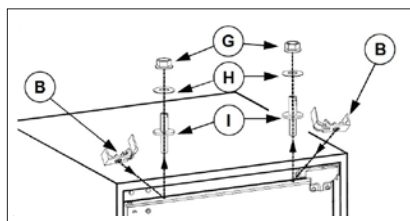
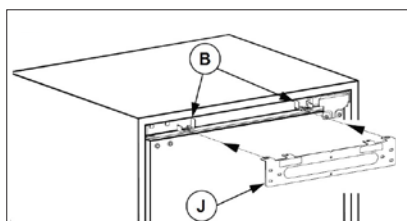
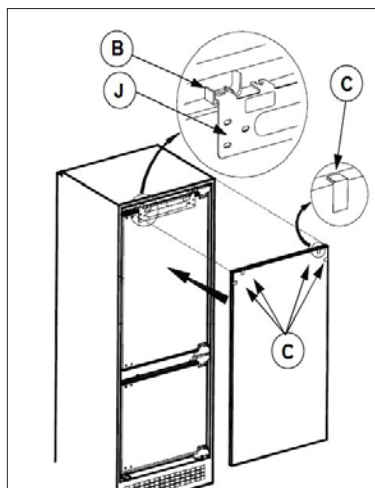
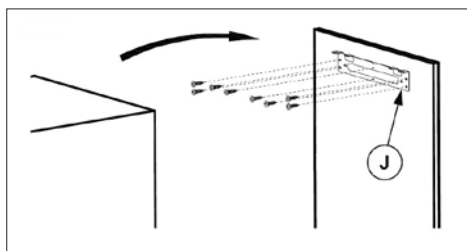

Fig. 9
Fig. 10
Fig. 11
Fig. 12
13. Unscrew and remove the nuts (G), the washers (H) and the adjustment screws (I) from the refrigerator door as shown in Fig. 9.
14. Attach the door hinges (B) to the top edge of the refrigerator door so the door hinges do not overlap and the front side of the hinges are aligned with the edge of the refrigerator door.
15. Attach the door cover holder (J) on the door hinges (B) (Fig. 10).
16. Remove the foil from the double-sided adhesive tape located on the holder (J).
17. Attach the distance parts (C) closer to the top corners of the refrigerator cover (Fig. 11).
18. Put the refrigerator cover on the holder (J) and use the distance parts to align the refrigerator cover according the left, right and top edge of the cabinet.
19. Remove the refrigerator cover with the holder (J) carefully from the door hinge. Make sure that the holder (J) has stayed attached to the refrigerator cover (Fig. 12).
20. Put the refrigerator cover on the floor and screw the holder (J) in (Fig. 12).